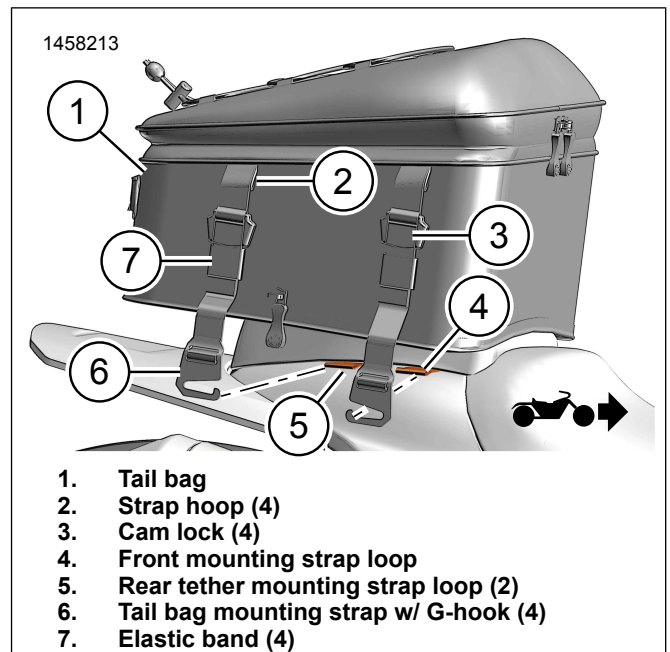

Figure 4. Tail Bag Installed
5. Figure 4 Secure tail bag mounting straps with G-hooks (6) through front mounting strap (4) loops and rear tether mounting strap (5) loops.
6. Pull straps tight to secure bag using cam locks (3).
7. Stow excess strap length using elastic bands (7).
2. Figure 4 Secure G-hooks (6) to strap hoops (2) while carrying tail bag (1).